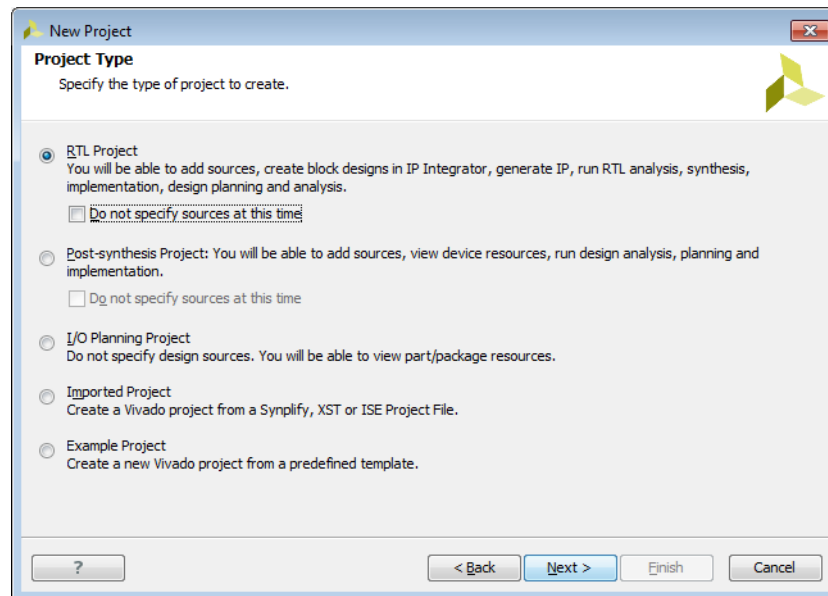

Figure 2-2: New Project Wizard—Project Type Page
4. In the Project Type page (Figure 2-2), specify the type of project, which determines the types of source files that are associated with the project.